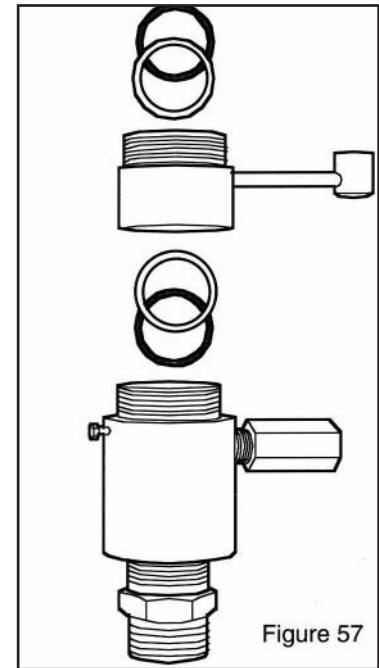

Figure 57
- Remove the seals from the fluid cylinder and oil chamber. (fig.57)